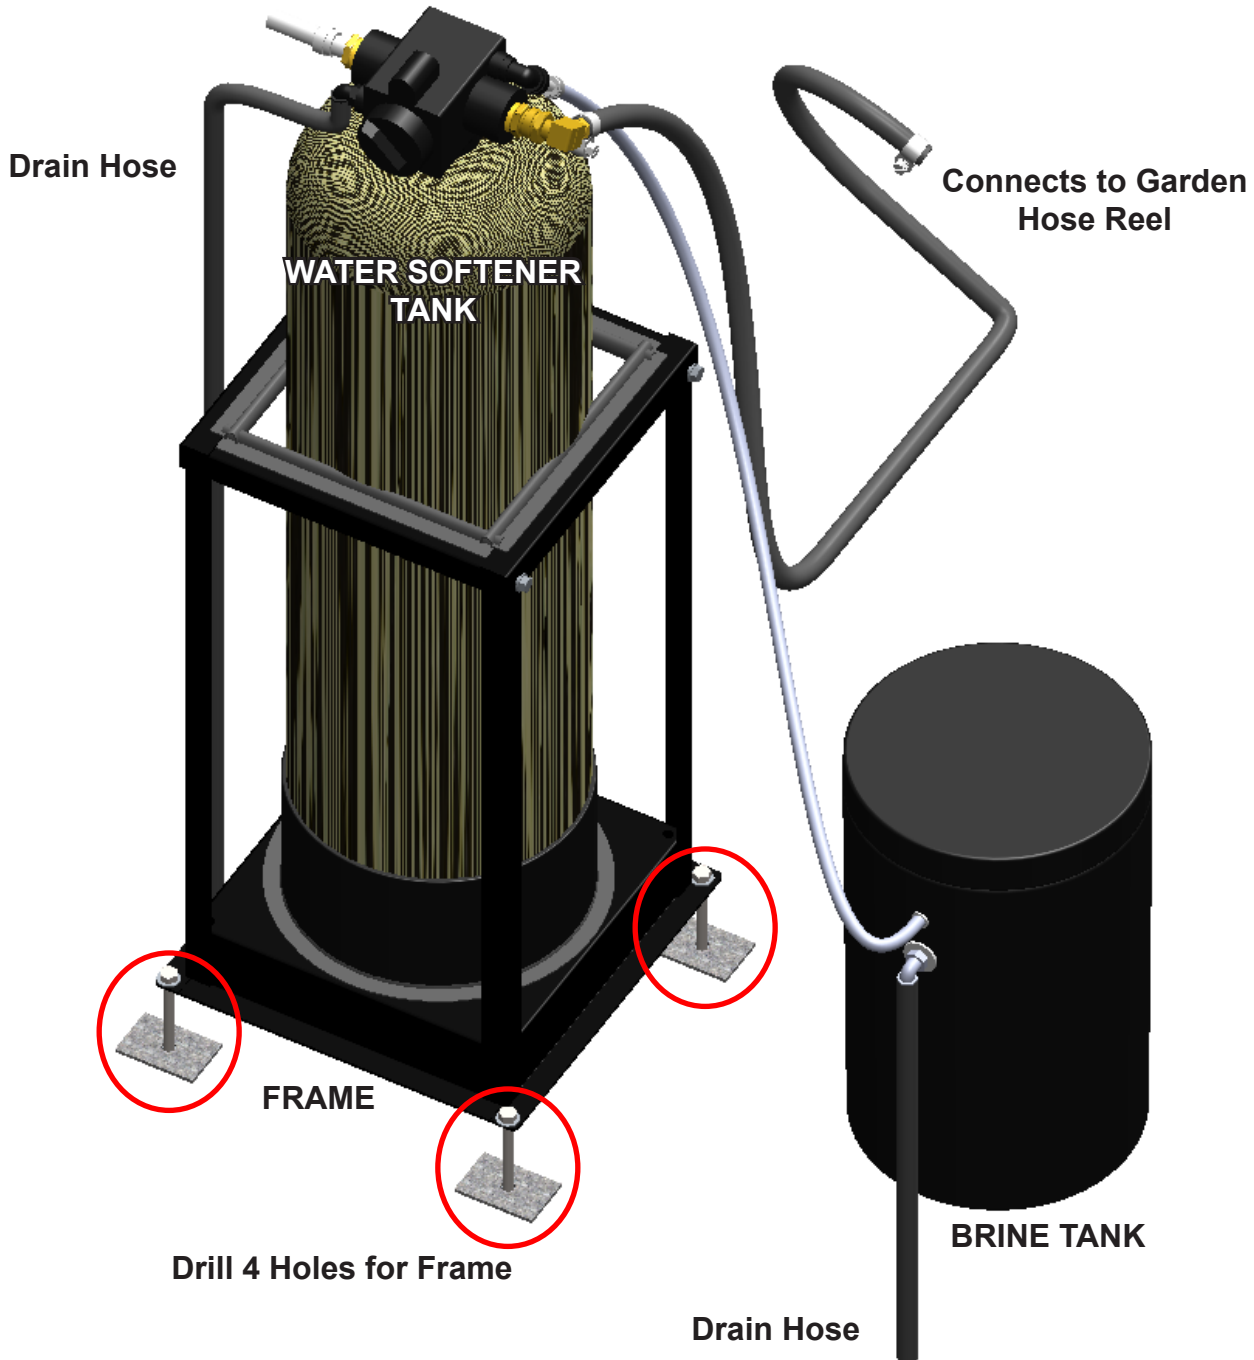
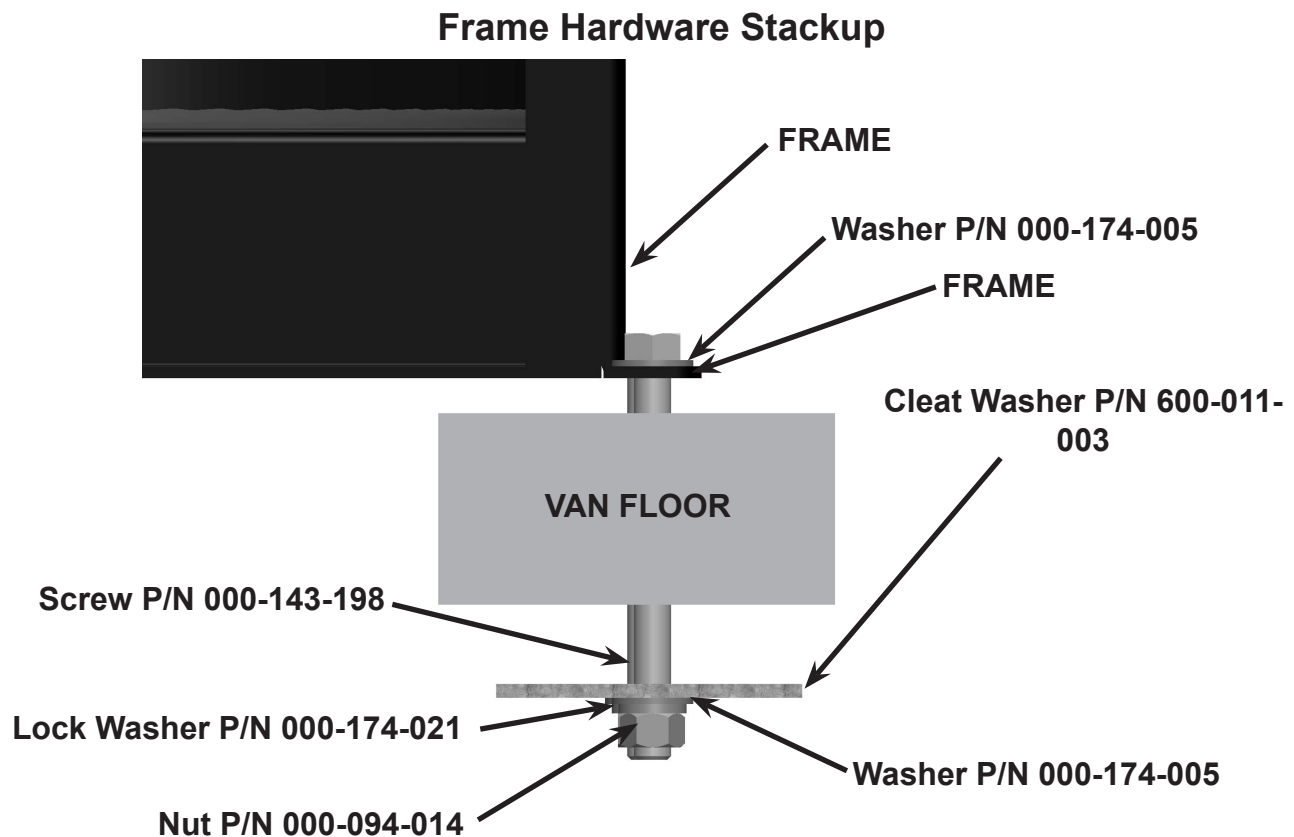

Figure 86. Install Water Softener Assembly
Figure 87. Secure Frame to Floor with Supplied Hardware
1. To install the Water Softener Assembly, dry fit the frame in the vehicle where it will be accessible (see Figure 86).
2. Using the chalk, mark the locations on the van floor where you will drill the 4 holes (see Figure 86).
5. Secure the frame to the van floor with 4 supplied bolts, tie down cleats, flat washers, lock washers and nuts, as show Figure 86 and in Figure 87.
7. Place a 1/2" I.D. tube on the barb fitting which is located on the side of the Brine tank. Route it through one of the drain holes to the outside (see Figure 86).
8. Connect the other 1/2" I.D. tube to the barb fitting on the Water Softener head. Route it through the other drain hole to the outside of the van to drain (from step 6 - see Figure 86).